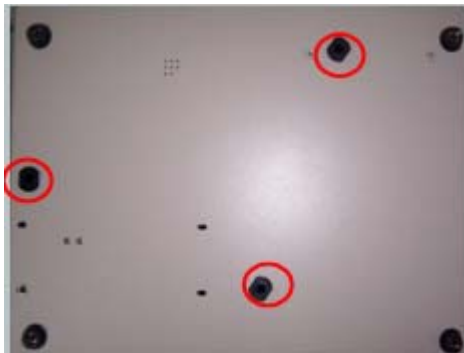

Figure 4-1
3. Remove three screws fixing the upper cover with a screwdriver as shown in Figure 4-1.